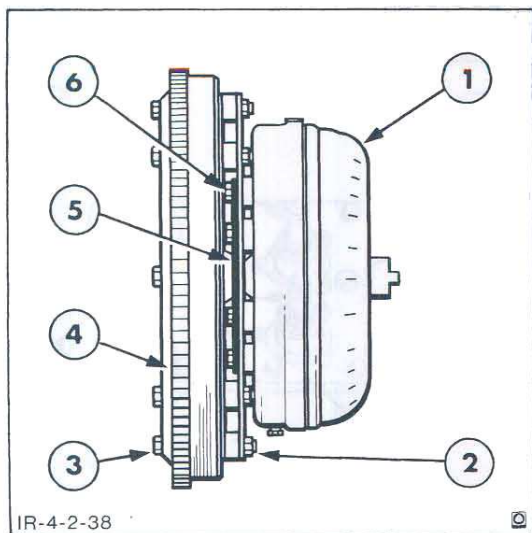

Figure 47
1. Secure the drive plate to the torque converter, Figure 47, with the six attaching bolts and flat washers. Tighten the bolts to the specified torque, see "Specifications" – Chapter 3.